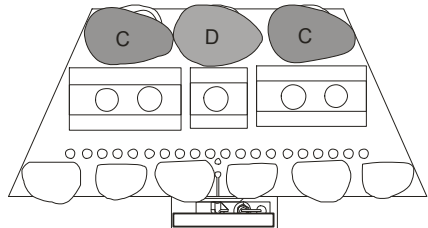

Figure 12
2. Place pebbles **C & D** in position as shown in **Figure 12**.